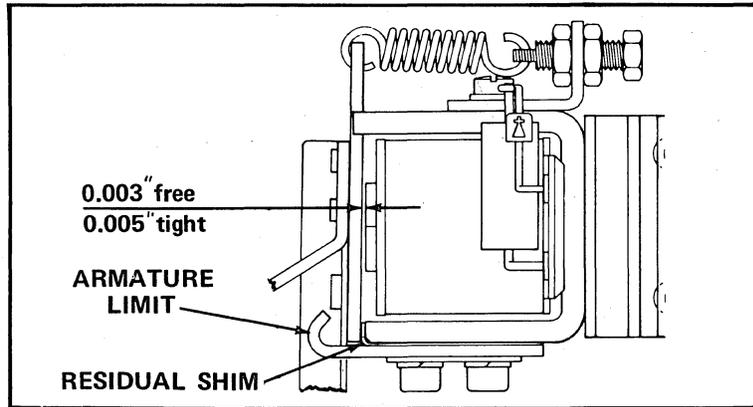

Figure 6-4 Armature Gap Clearance Adjustment
- (1) The correct air gap clearance is established by assembling a 0.013" (nominal) residual shim between the armature limit and magnet housing. See Figure 6-4. With the armature manually energized, the air gap